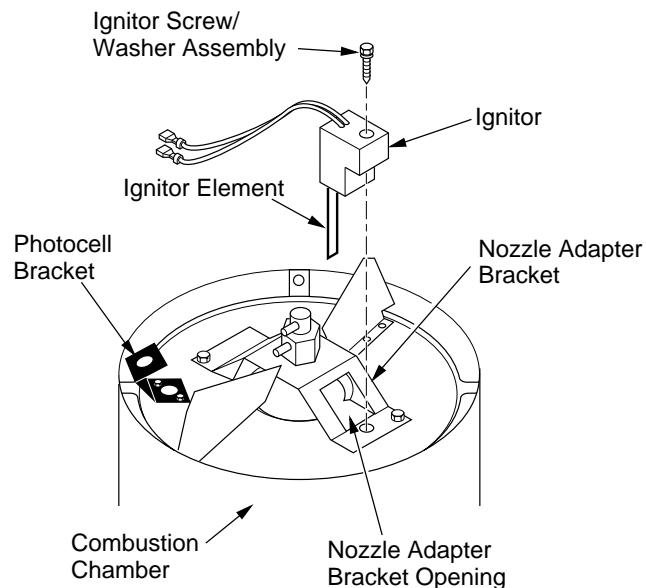

Figure 16 - Ignitor Replacement
6. Remove combustion chamber. Stand combustion chamber on end with nozzle adapter bracket on top (see Figure 16).
9. Carefully guide ignitor into opening in nozzle adapter bracket. Do not strike ignitor element. Attach ignitor to nozzle adapter bracket with screw using a 1/4" nut driver (see Figure 16). Torque .90 to 1.69 N-m (8 to 15 in-lbs) Do not over torque.